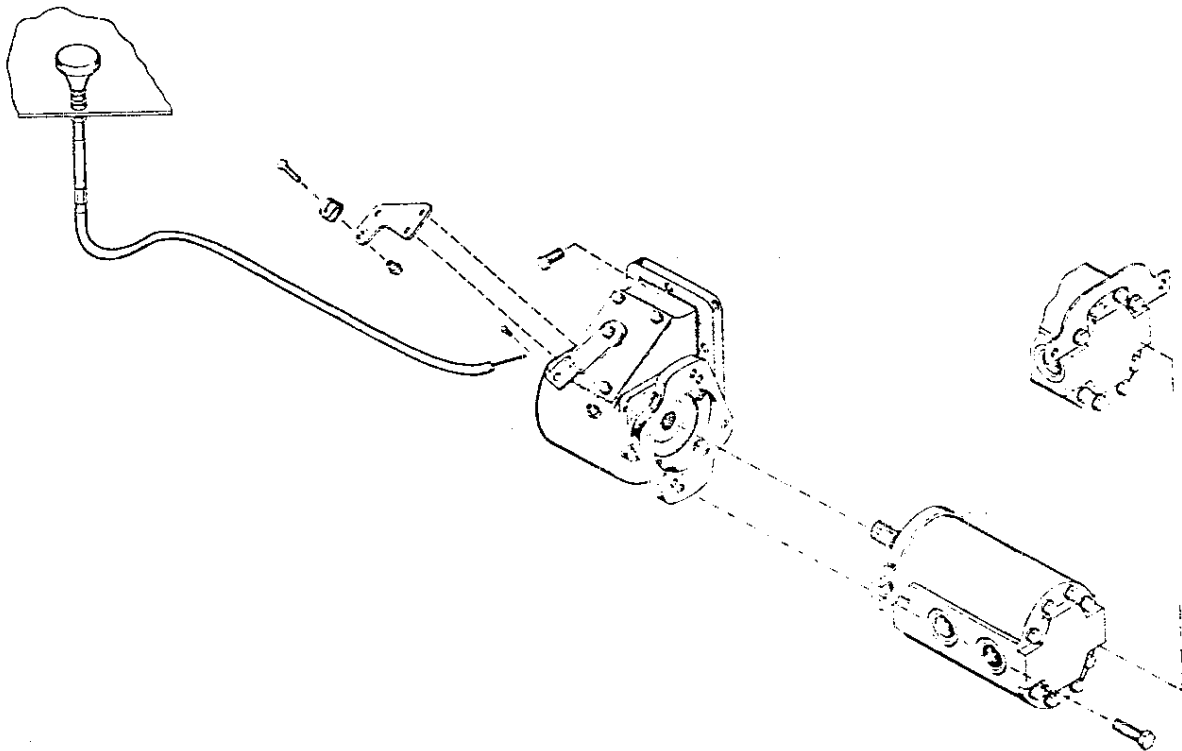
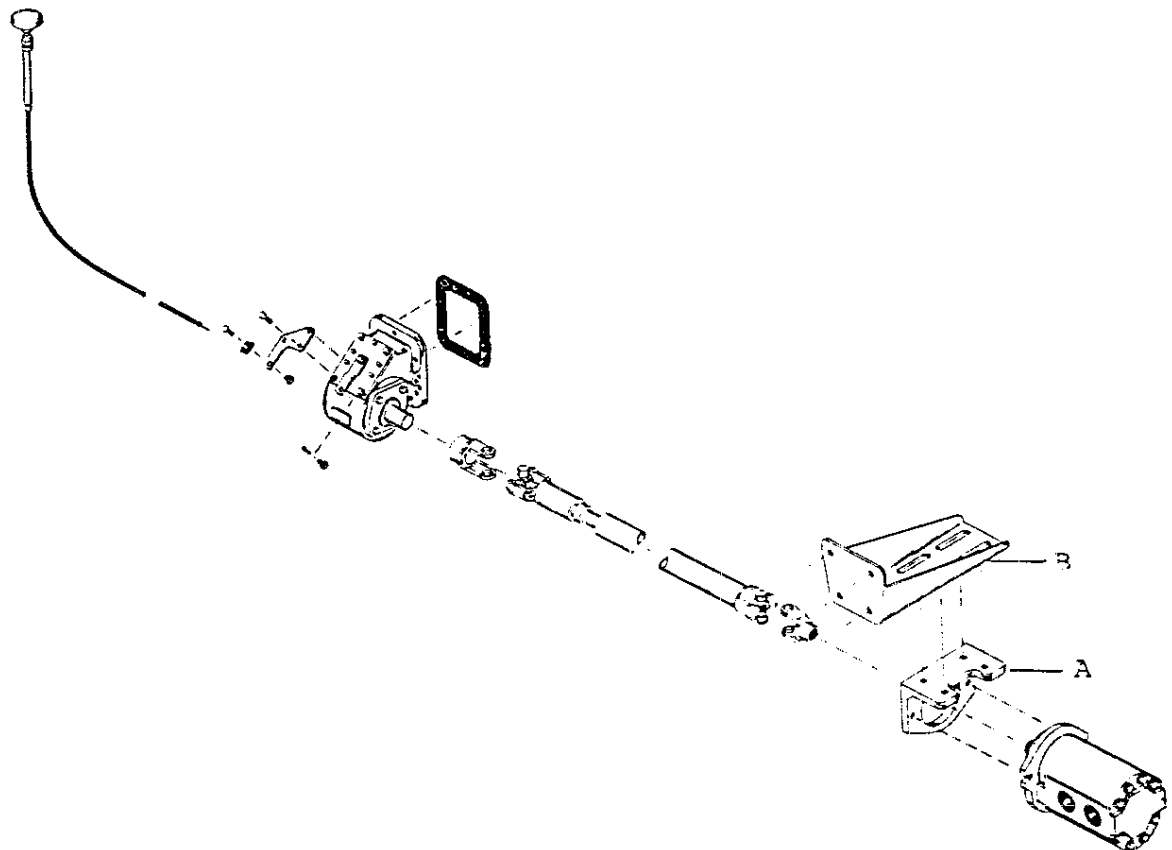

Fig. E-5
Fig. E-6
3. Install PTO in accordance with manufacturer's instructions (See Fig. E-5 or Fig. E-6, pages 5-5 or 5-6).